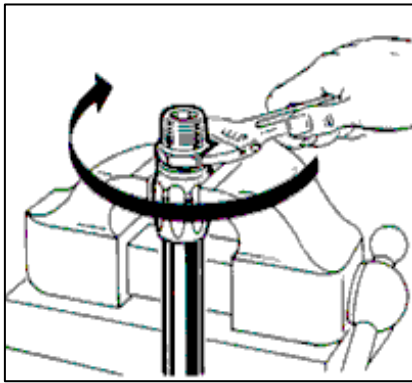

Figure 4.0
**Step 4:** Twist the nipple by hand into the hose until the threaded part of the nipple is about to catch on the thread of the outer ferrule. Screw the nipple clockwise into the sleeve until they are completely screwed together. Use a wrench if required but **DO NOT TIGHTEN** at this time. Please note that disassembly procedure is the reverse of this sequence. See Figure 4.0